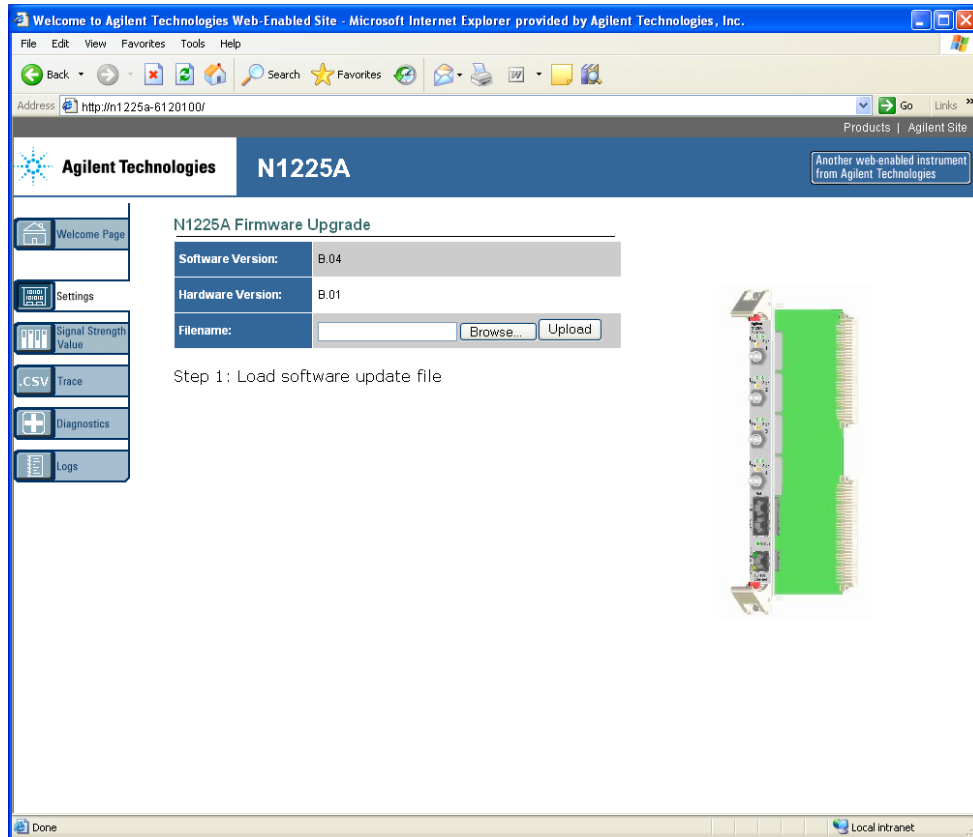

Figure 57 The Update screen
- 3 To perform a software upgrade, click on the Upgrade button located on the bottom of the screen. You will see something similar to the screen in Figure 57.